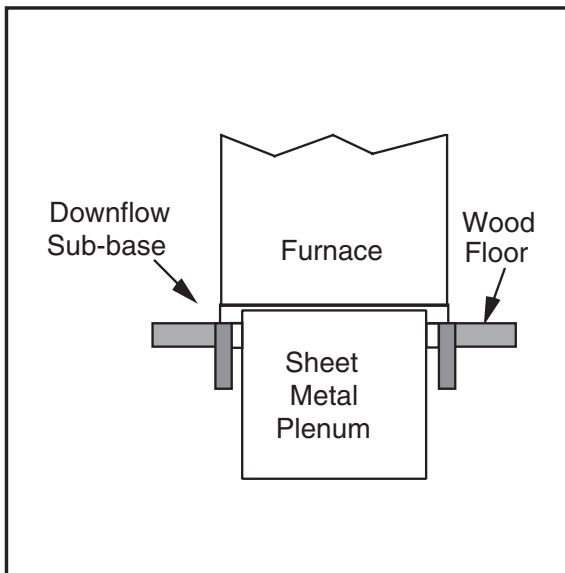

Figure 8. Furnace on a Wood Floor
2. Place sub-base for combustible floors over the hole with its duct collar extended downward. Attach the supply air plenum to the base in a manner which will assure 1" clearance to the flooring or other combustible material. Place furnace on the combustible base as shown in Figure 8.